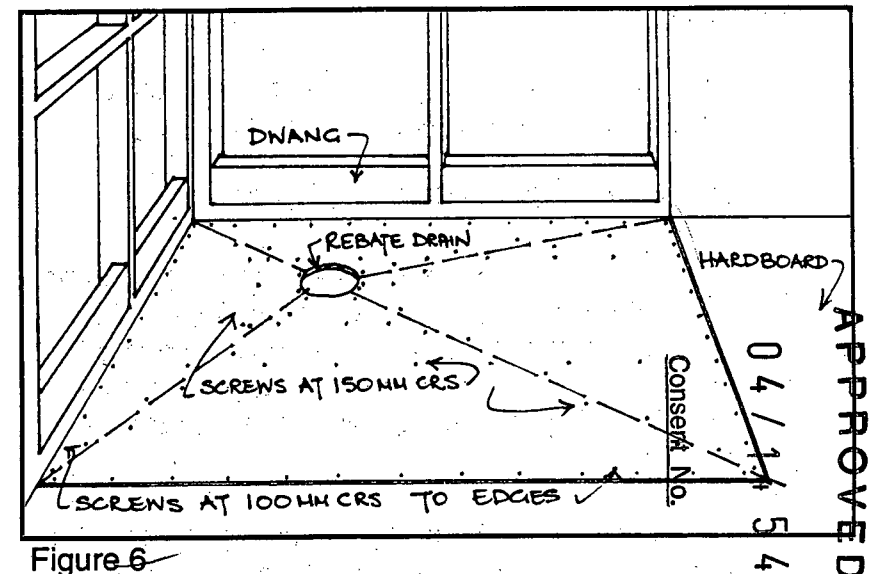

Figure 6
11. Cut the appropriate sized hole for the drain and rebate as necessary so that the top of the drain flange will be flush with the surface of the ply. Figure 6.